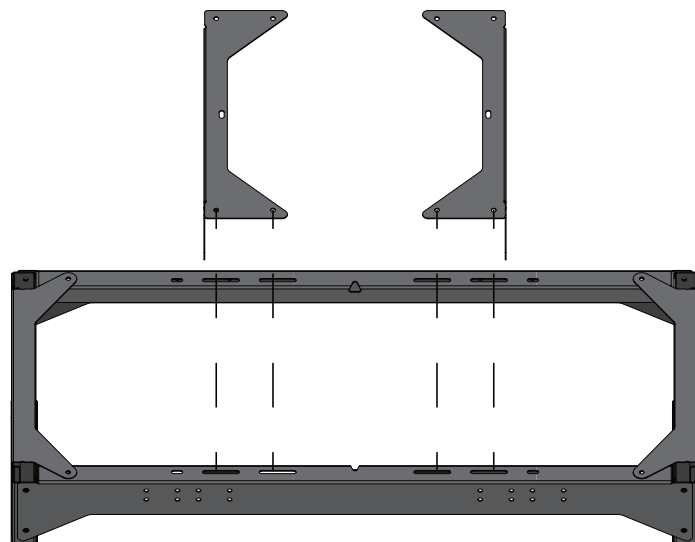

FIG. 7a
If you are installing a 21" Cyclone, attach the two remaining Short Braces (E) on top of the two upper Long Braces and secure in place with four Bolts (D2), four Washers (D3), and four Whiz-Nuts (D4) for each Short Brace [FIG. 7a].